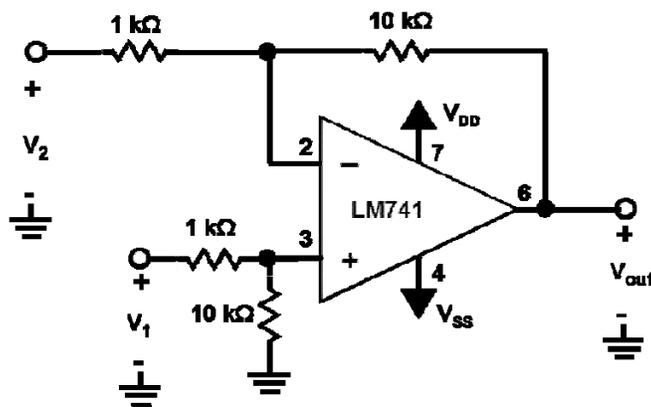

Figure 7: The differential amplifier
20. Build the op amp circuit show in Figure 7.